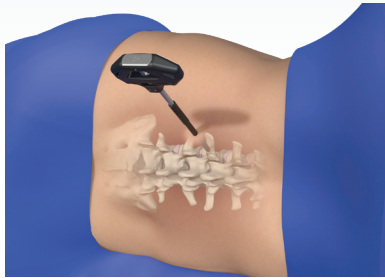

Figure 9
- Place a targeting needle on the pedicle, advancing it into the pedicle, paying attention to follow the pedicular column (Figure 9). Final position is verified via A/P and Lateral fluoroscopic imaging.